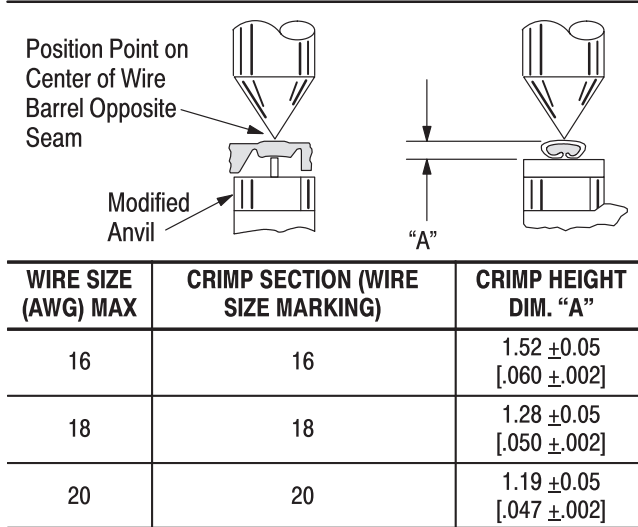

Figure 4
This tool is provided with a crimp adjustment feature. Initially, the crimp height should be verified as specified in Figure 4. Refer to Section 6, CRIMP HEIGHT INSPECTION, and Section 7, CRIMP HEIGHT ADJUSTMENT, to verify crimp height before using the tool to crimp desired contacts and wire sizes.
1. Refer to Figure 4 and select a wire (maximum size) for each crimp section listed.
3. Using a crimp height comparator, measure the wire barrel crimp height as shown in Figure 4. If the crimp height conforms to that shown in the table, the tool is considered dimensionally correct. If not, the tool must be adjusted. Refer to Section 7, CRIMP HEIGHT ADJUSTMENT.